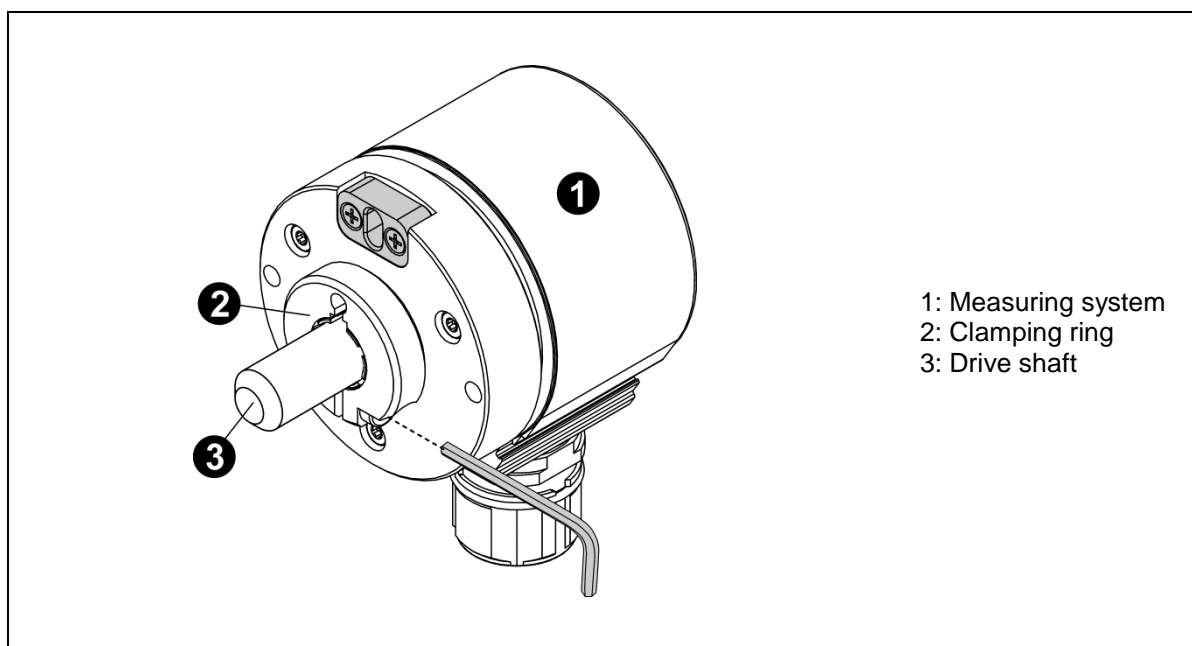

Figure 3: Friction locking
- Axial slipping of the measuring system on the drive shaft must be prevented by the fixing of the clamping ring, see Figure 3.